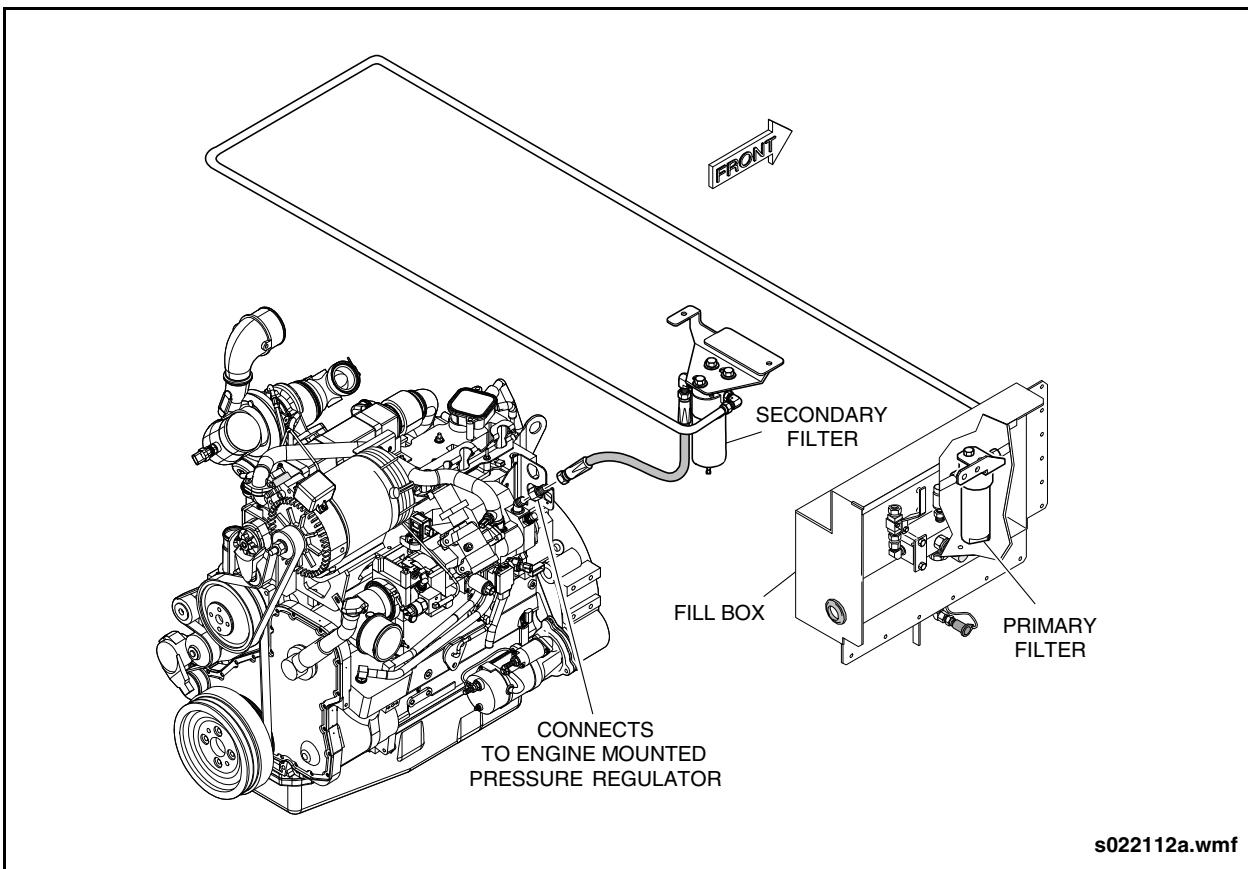

Fig. PM-1: CNG Fuel Filter Locations
2. Using a 5 mm Allen key, loosen and remove the drain plug from the base of the primary filter. See "Fig. PM-1: CNG Fuel Filter Locations" on page 17.